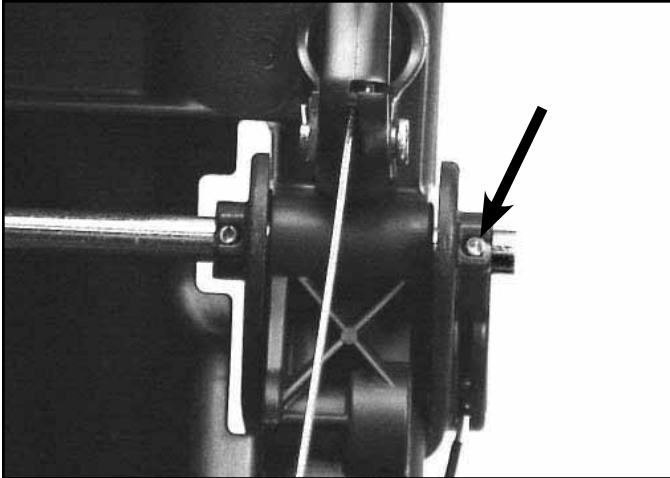
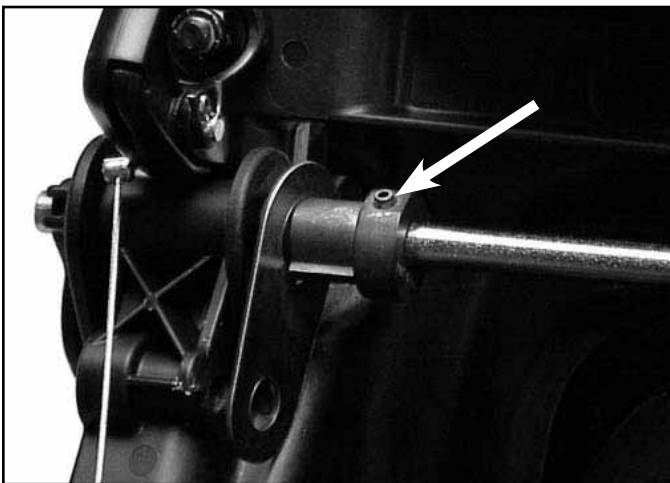

Fig 030
Fig 031
3. To remove the lockout rod, go to the right hand end. There are 2 roll pins on the right side (Fig. 030) and one in the lockout cam on the left (Fig. 031).